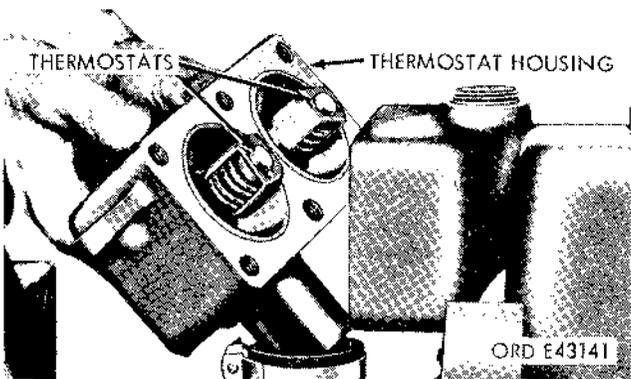

Figure 2-135. Removing thermostats—gasoline models.
- (5) Remove the six capscrews (fig. 2-135) and lockwashers at the front of the thermostat housing, and remove the housing from the bypass hose and from the radiator inlet hose. Remove and discard the thermostat housing-to-water outlet header gasket.
- (6) Pull the thermostats (fig. 2-135) from the housing.
- (1) Clean gasket surfaces on the thermostat housing (fig. 2-135) and water outlet header, and install a new gasket on the front of the header using a liquid type gasket cement.
- (2) Make sure that the rubber seals are in place on the two thermostats, and place the thermostats in the housing.
- (3) Slide the outlet on the front of the ther-
mostat housing (fig. 2-135) into the radiator inlet hose. Slide the outlet on the bottom of the thermostat housing into the bypass hose. Position the thermostat housing at the front of the water outlet header, and install the six capscrews and lockwashers. Tighten the capscrews.